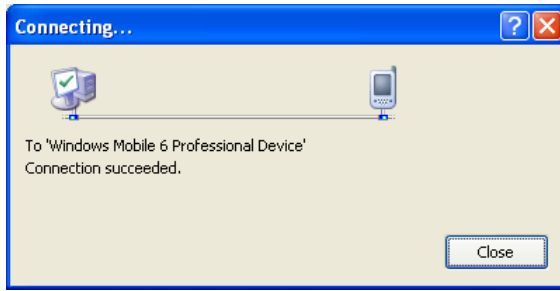

Figure 4.13
9. Choose **Device** in the list of **Devices:** and click **Connect** button. The screen in Figure 4.13 if appear indicates the success of connection establishment.